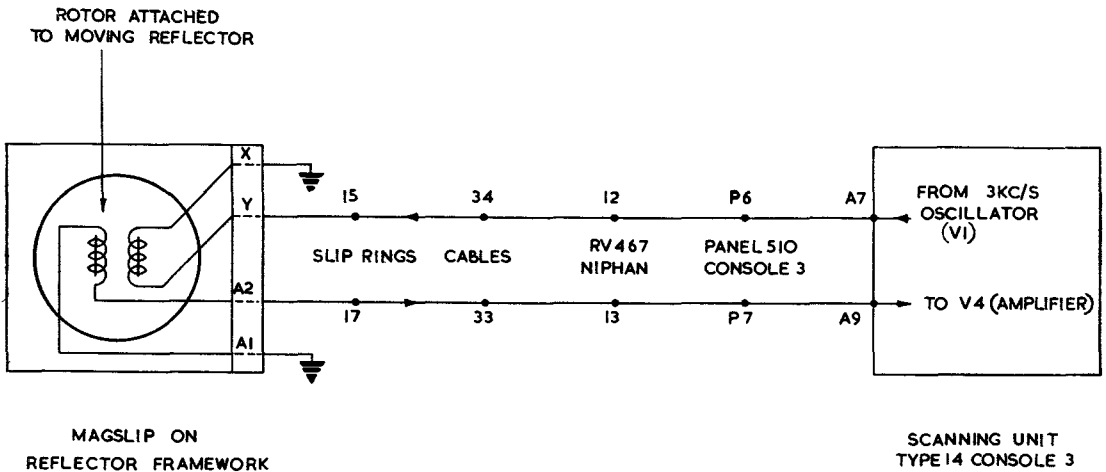

Fig. 29. Production of elevation scan : schematic diagram
**79.** As shown schematically in fig. 29, a 3 kc/s sinusoidal waveform of constant amplitude is generated by V1 in scanning